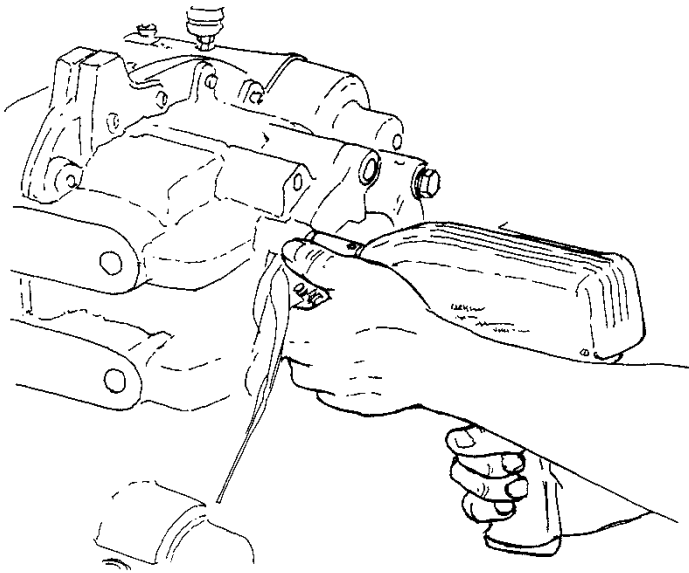

Figure 6 Remove Bolts from Bearing Cage
8. Remove bolts from the bearing cage on the front cover (Figure 6).